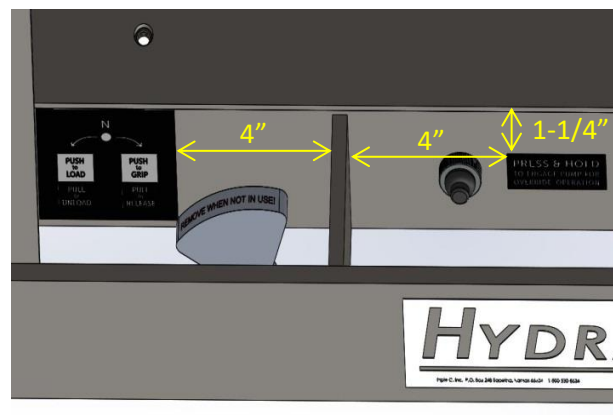

Figure 10
6. Install the included decals at the suggested locations where they can be easily viewed, near the handle and momentary switch. Install the 'REMOVE WHEN NOT IN USE!' decal across the top of the handle as shown. **Figure 10**